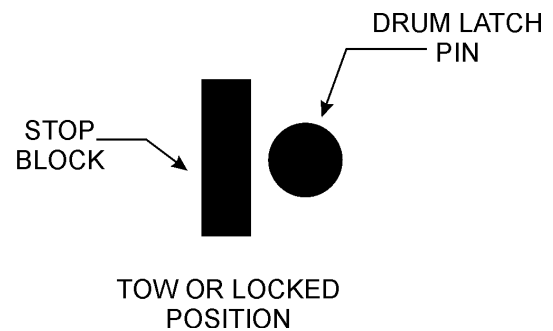

Figure 3. Drum Latch Pin (Tow or Locked Position)
**DO NOT** tow the mixer unless the mixing drum is **completely empty**. **ALWAYS** make sure the drum latch pin is fully engaged to the **right** (Figure 3) of the drum stop block. This will keep the drum from rotating.